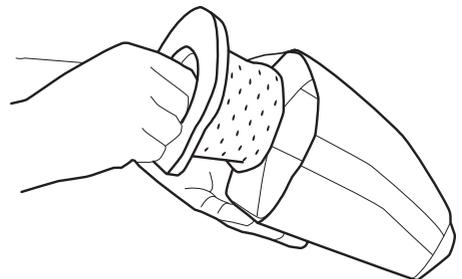

Figure 4
4. Empty the container. (See Figure 4)